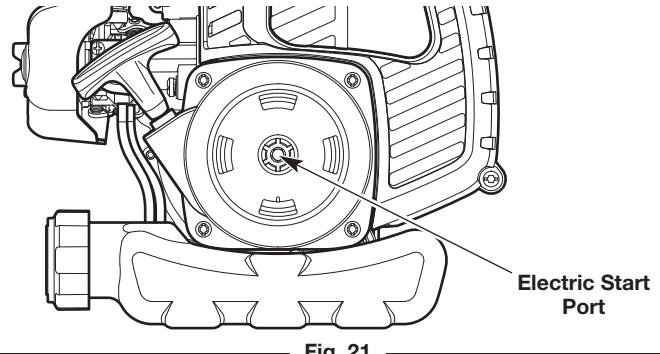

Fig. 21
4. Insert the electric start accessory into the electric start port (Fig. 21).